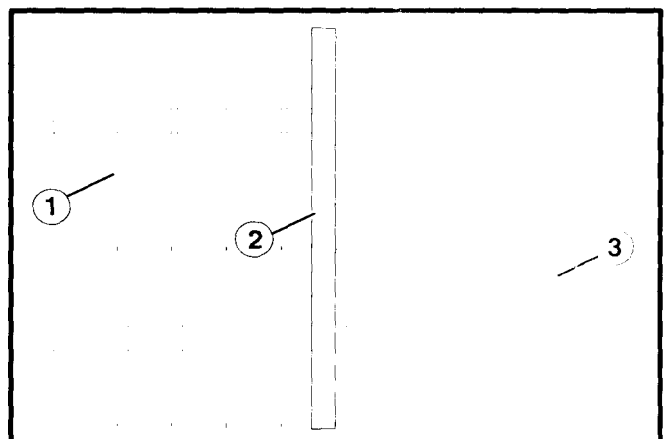

Figure 32. Disc and Blade Alignment
1. Tip unit forward and place on jack stands. Check the disc/blade alignment by placing a straight edge against the concave side of either the fifth or sixth disc and the corresponding blade on the reel. The straight edge should lie flat against both disc and blade (see figure 32).